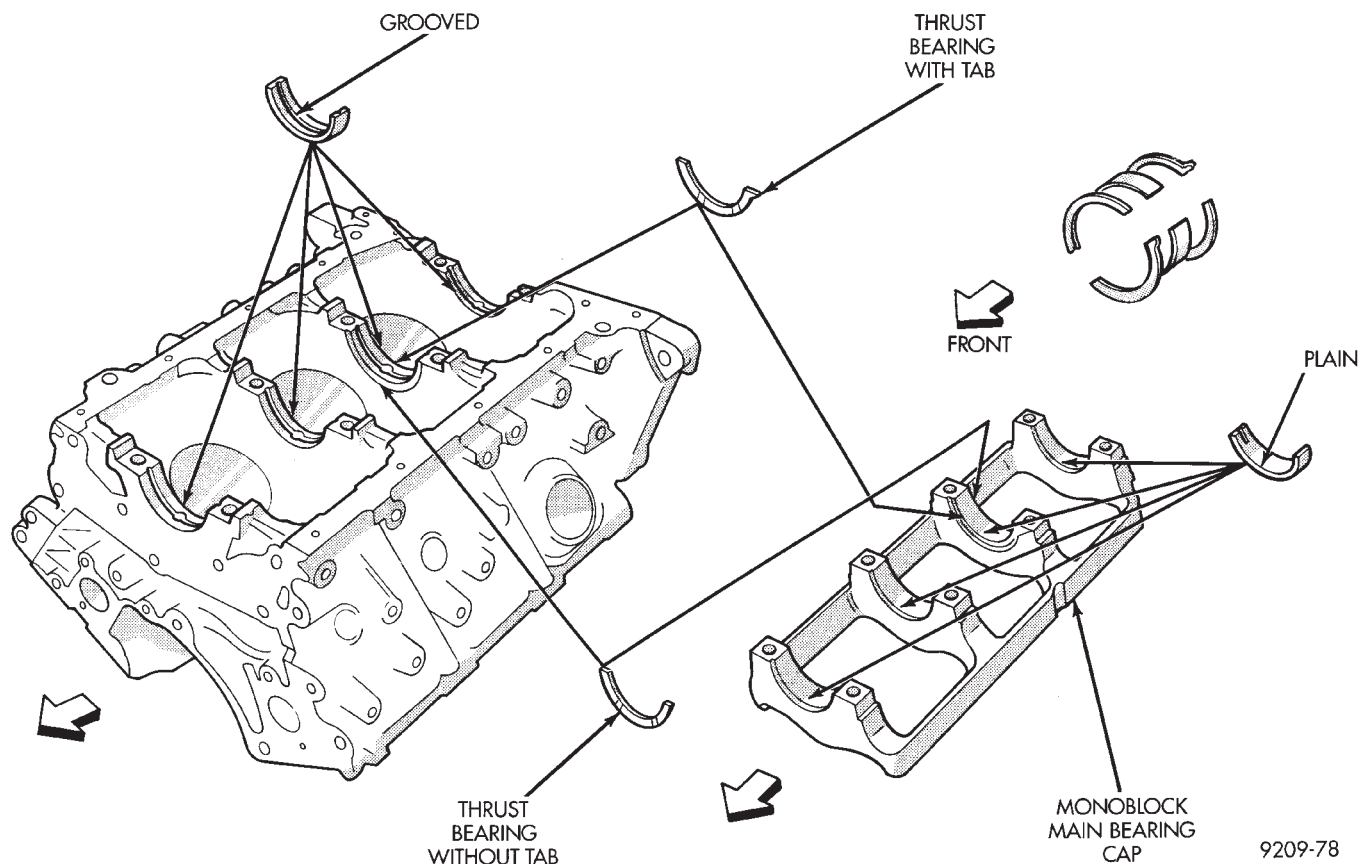

Fig. 9 Install Main Bearings
- (1) Install upper main bearing shells making certain oil holes are in alignment, and bearing tabs seat in block tabs. All upper bearings have oil grooves (Fig. 9).
(Fig. 9) are different, one has end positioning tabs, while the other is plain. One **pair** of each thrust washers are installed into the block and one **pair** into the main bearing cap (Fig. 9).
(2) Apply a thin film of grease to plain side of thrust washers and position them on each side of number three main bearing. Grooved surface towards crankshaft.
(3) Oil the bearings and journals and install crankshaft.
(4) Install lower main bearing shells without oil grooves in monoblock cap.
(5) Install one pair of thrust washers in cap. Refer to Thrust Bearings (Fig. 9).
(7) Oil the bearing cap bolt threads, install and tighten bolts progressively in sequence shown in (Fig. 9) to 80 N•m (60 ft. lbs.) torque.